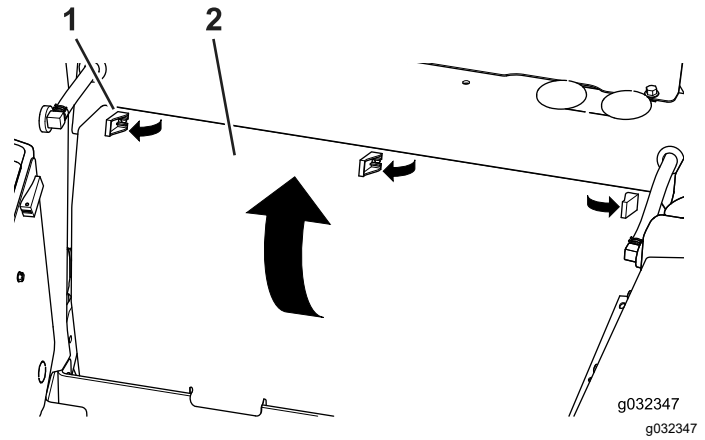

Figure 3
2. Toggle the 3 swell latches and remove the rear panel (Figure 3).